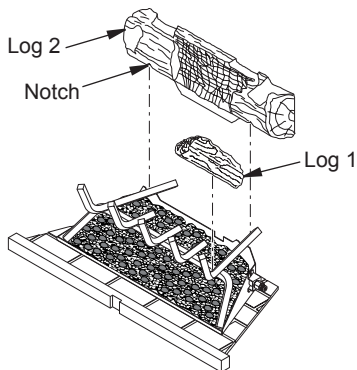

Figure 23 - Installing Logs 1 and 2
1. Place small front right log (log 1) on right front of grate as shown in Figure 23.
2. Place large back log (log 2) onto grate making sure notches rest over grate as shown in Figure 23.